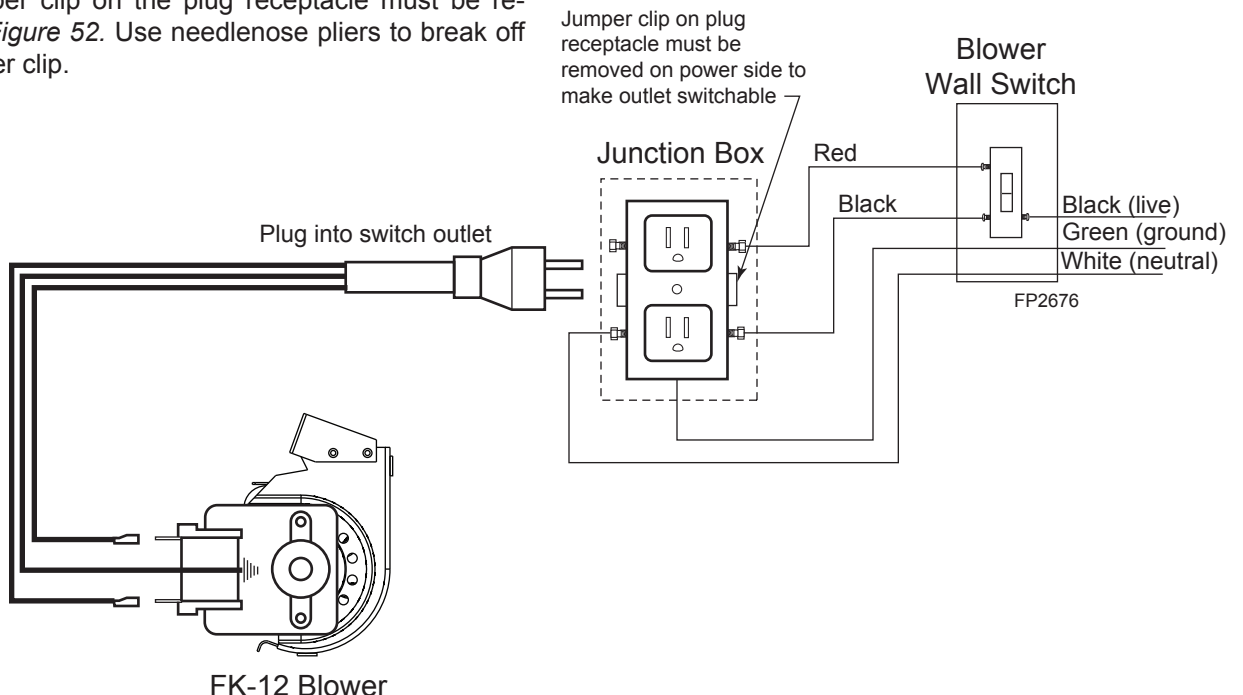

Figure 52 -
3. The jumper clip on the plug receptacle must be removed. *Figure 52.* Use needlenose pliers to break off the jumper clip.